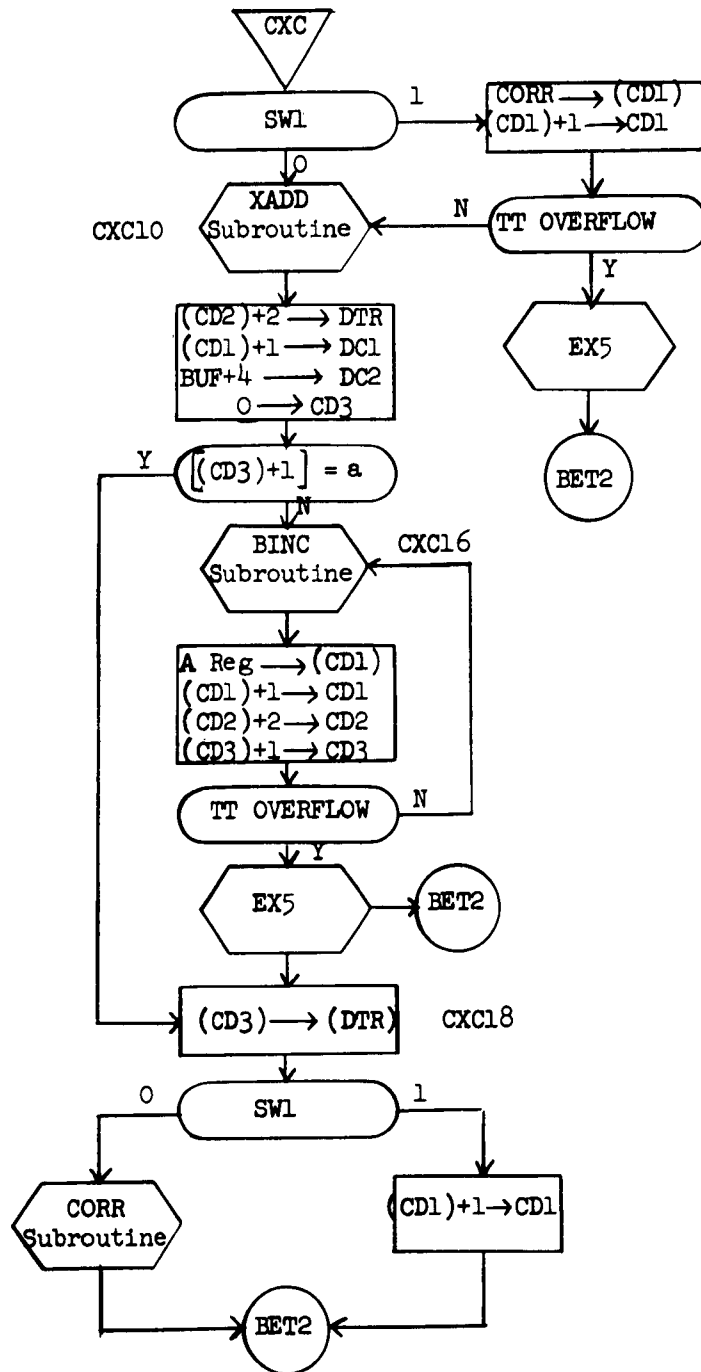

Figure 7.6 CXCL
7.2.3.3 CXC Correct Command (Figure 7.6)